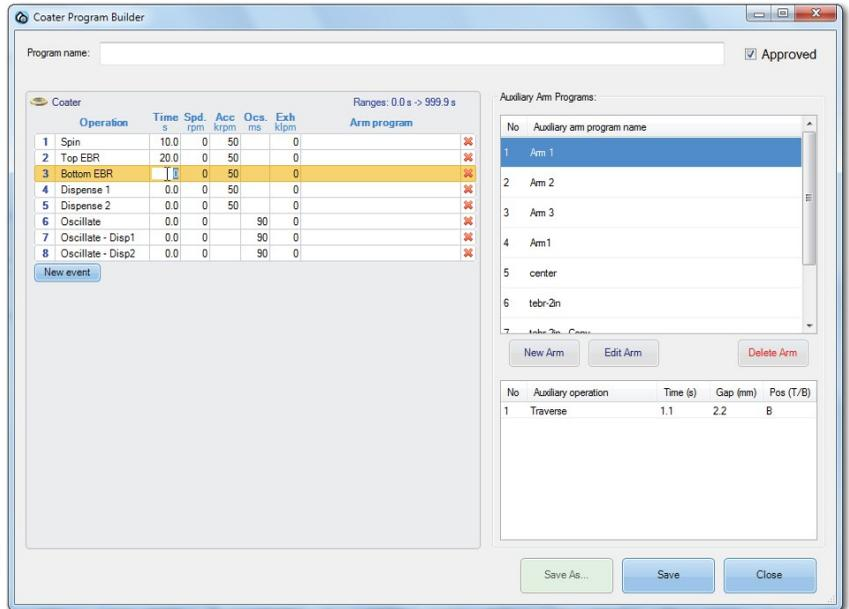

FIGURE 3-19: Configuring Coater events
- Click **New Event** and select the events from the drop-down list menu. The selected events show up on the screen. See Figure 3-19.